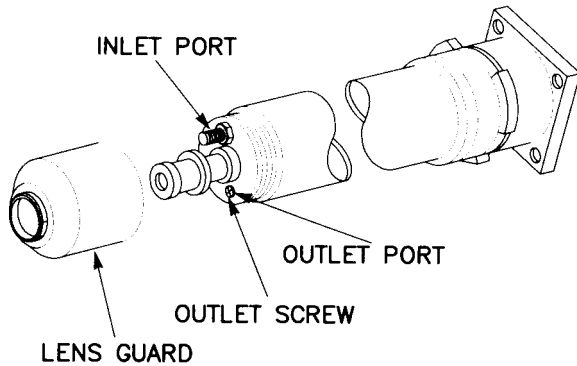

Figure 3-80 M55 Barrel Assembly
3-19. Trainer, M55 Laser (figs. 3-80 and 3-81).
a. Barrel Assembly (fig. 3-80).